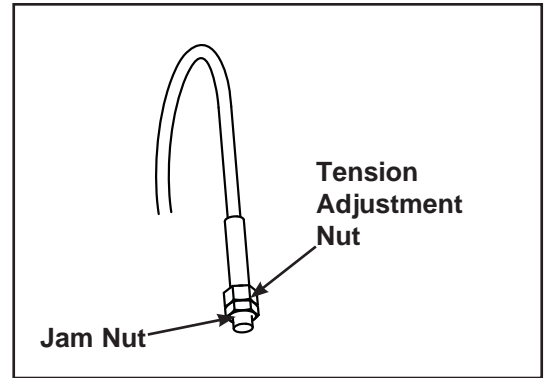

Figure 6
- 1. Jam Nut Adjustment** - This type uses a jam nut and a tension adjustment nut at the cable cam end as the primary adjustment. The other end of the cable usually contains a roll pin adjustment. See Figures 6 and 7.